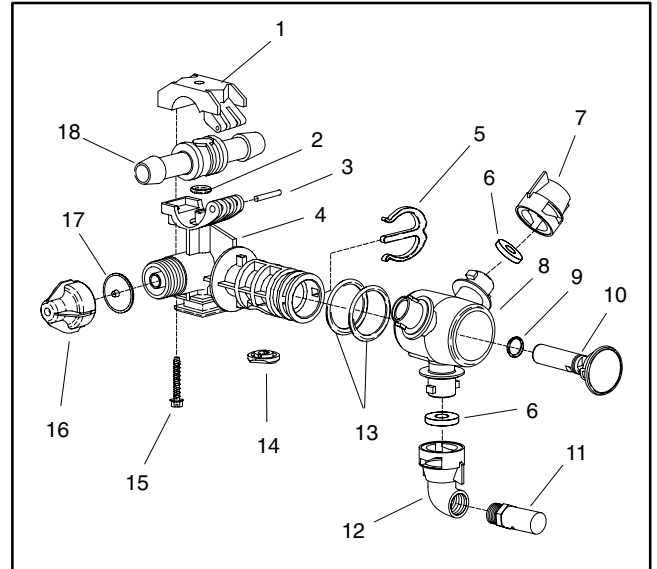

Figure 37
Disassembly (Fig. 37)
2. Disassemble turret body using Figure 37 as a guide.
Assembly (Fig. 37)
2. Assemble turret body using Figure 37 as a guide.